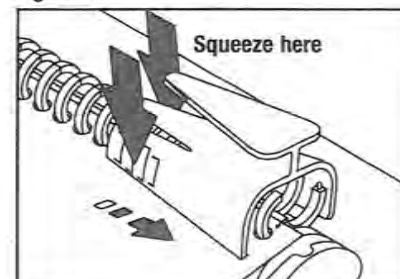

Figure 9
3. Use the zip tool to close the spine. (see Figure 9)